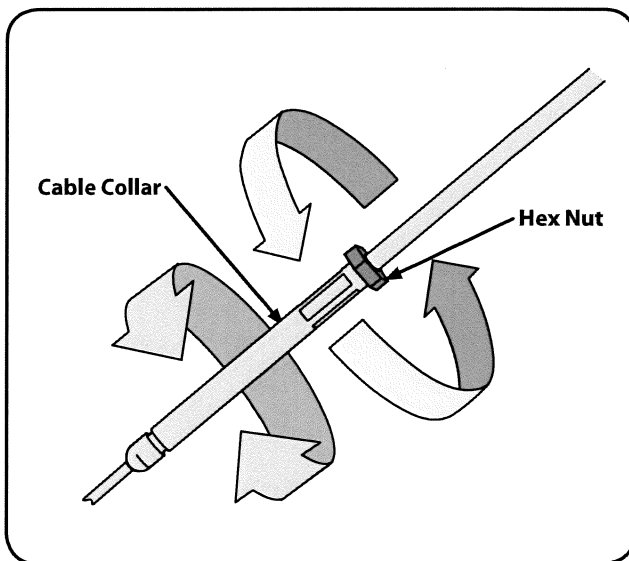

Figure 3-9
- Adjust the forward clutch cable by loosening the hex nut. See Figure 3-9.
- Turn the cable collar section one or two turns to increase or decrease tension on the cable. See Figure 3-9.
- Retighten the lock nut against the cable collar. See Figure 3-9.